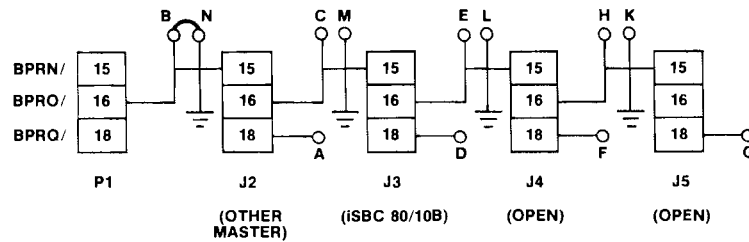

Figure 2-6. Multibus™ Compatible Priority Resolution
The first method is illustrated in figure 2-6. In this configuration the other master is placed into any cardcage slot which has pin 15 (BPRN/) of the backplane grounded. Jumper pair 84 to 85 on the iSBC 80/10B board must then be removed and replaced with a jumper between 85 and 86. The iSBC 80/10B board would then be placed in an adjacent slot to the other master for proper operation. To illustrate, the first method is implemented in the following example:
- Ground J2 pin 15 (BPRN/) by installing a jumper wire between wire wrap posts B and N (figure 2-6).